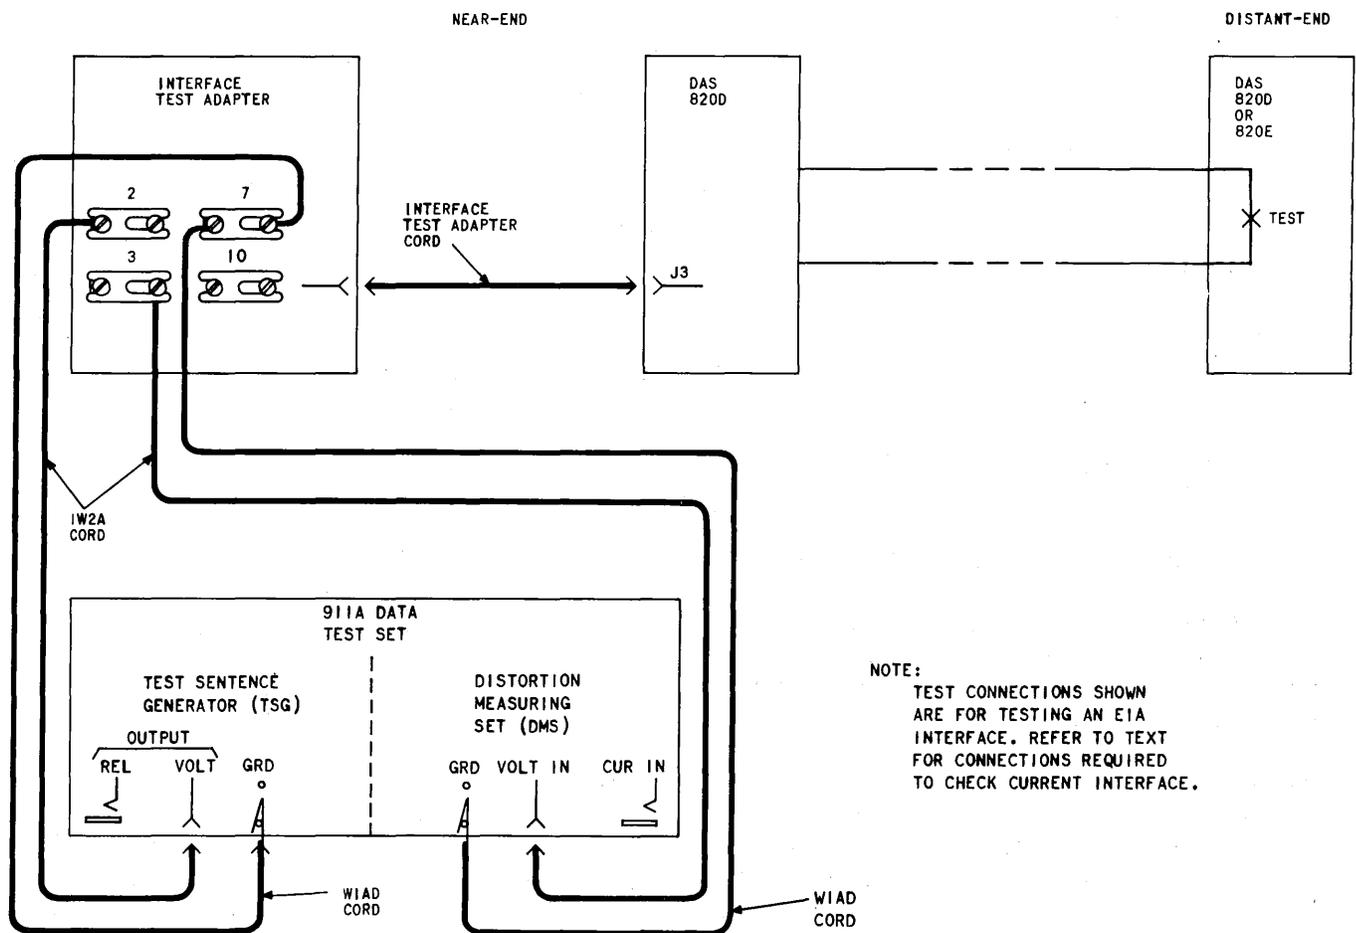

Fig. 1—Distortion Test Using 911A Data Test Set
5.06 The block diagram (Fig. 1) shows the equipment set up at the terminal for testing both directions of transmission. This checks the transmitter and receiver of both data sets and the two directions of transmission of the connecting facilities.
(3) **◆**For EIA interface: use a 1W2A cord to connect from the OUTPUT VOLT jack on the TSG to terminal 2 (BA lead) of the interface test adapter. Connect a W1AD cord from GRD on the TSG to terminal 7 (AB lead) of the interface test adapter. (See Fig. 1).
(4) For current interface: use a 2W42A cord to connect from the REL jack of the TSG to the interface test adapter. The black wire of the 2W42A cord connects to terminal 2 (BA lead) and the white wire to terminal 10 (-24 volts) of the interface test adapter. **◆**
(5) Set controls of the DMS as follows: